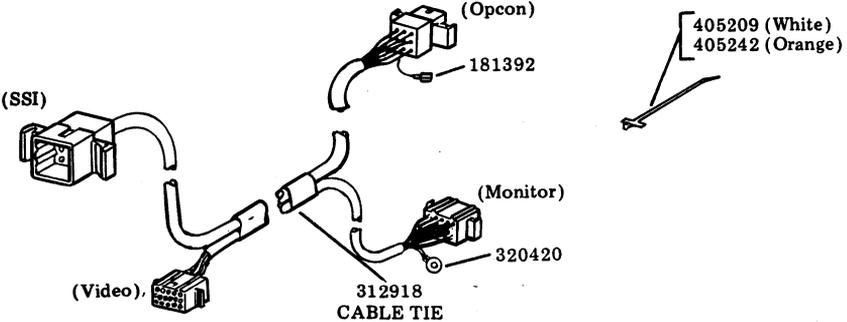

Fig. 16—40KDA to KD Cable Assemblies
7.04 The 405390 cable termination box (24 position) is also associated with the 40KDA101 installation and is shown in Fig. 16.